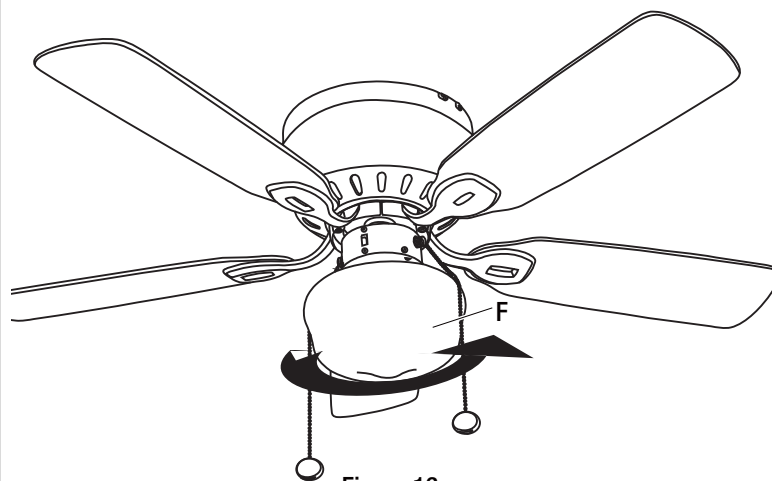

Figure 16
- Install the lamp shade into the lamp-fitter by a gentle clockwise twist-and-lock (Figure 16).